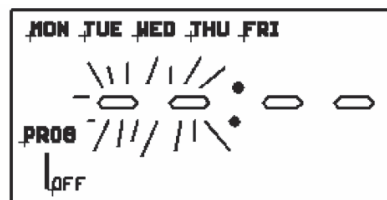

Figure B-8: Setting 'ON' / 'OFF' times (Monday to Friday)
4. Use the '+' or '-' buttons to set the hours and the 'PROG' button to change between hours and minutes. Followed by '+' or '-' again to set the minutes. Press 'PROG' to change the programme off times. Refer to Figure B-8.